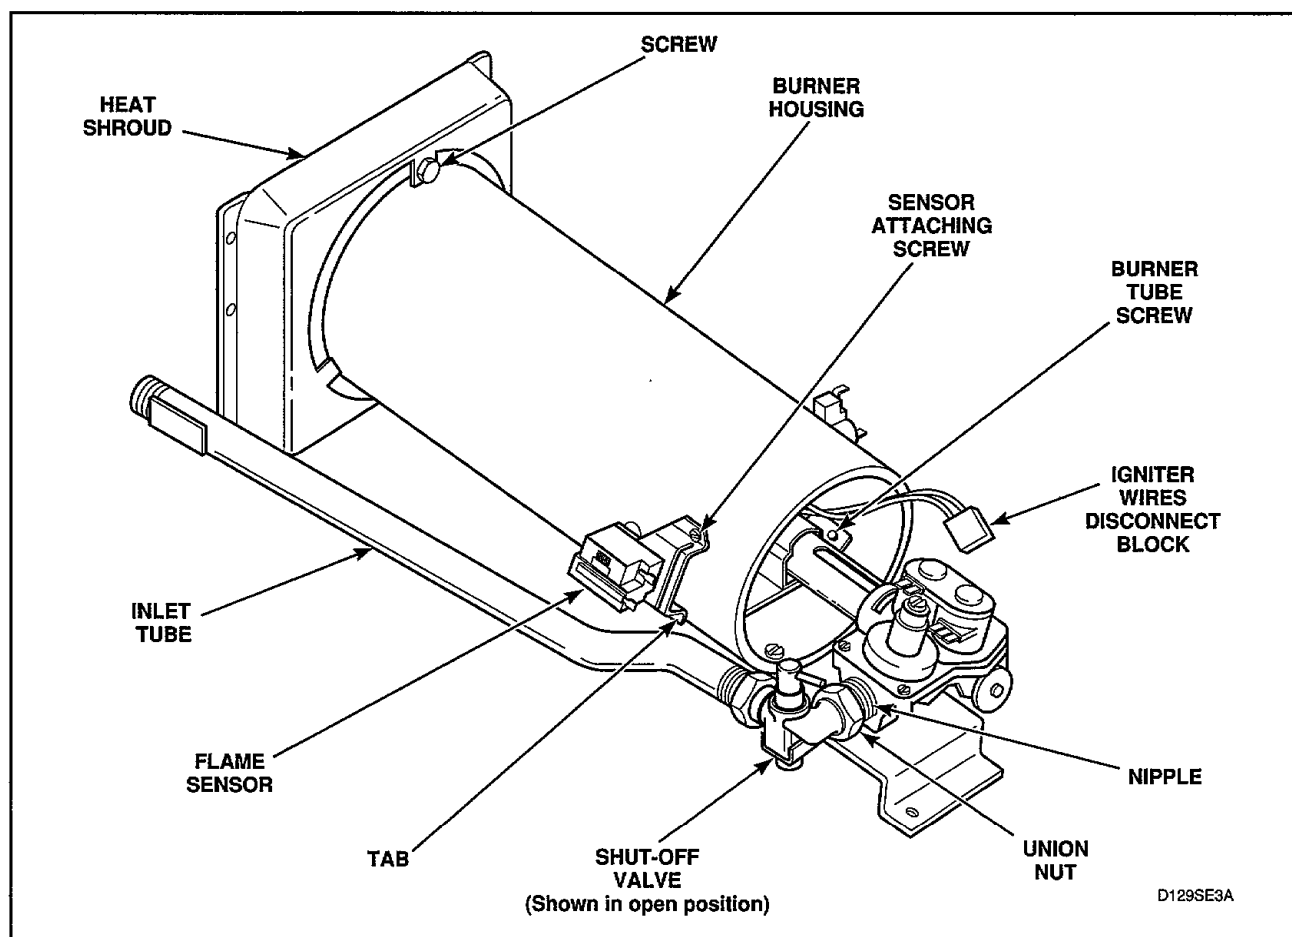
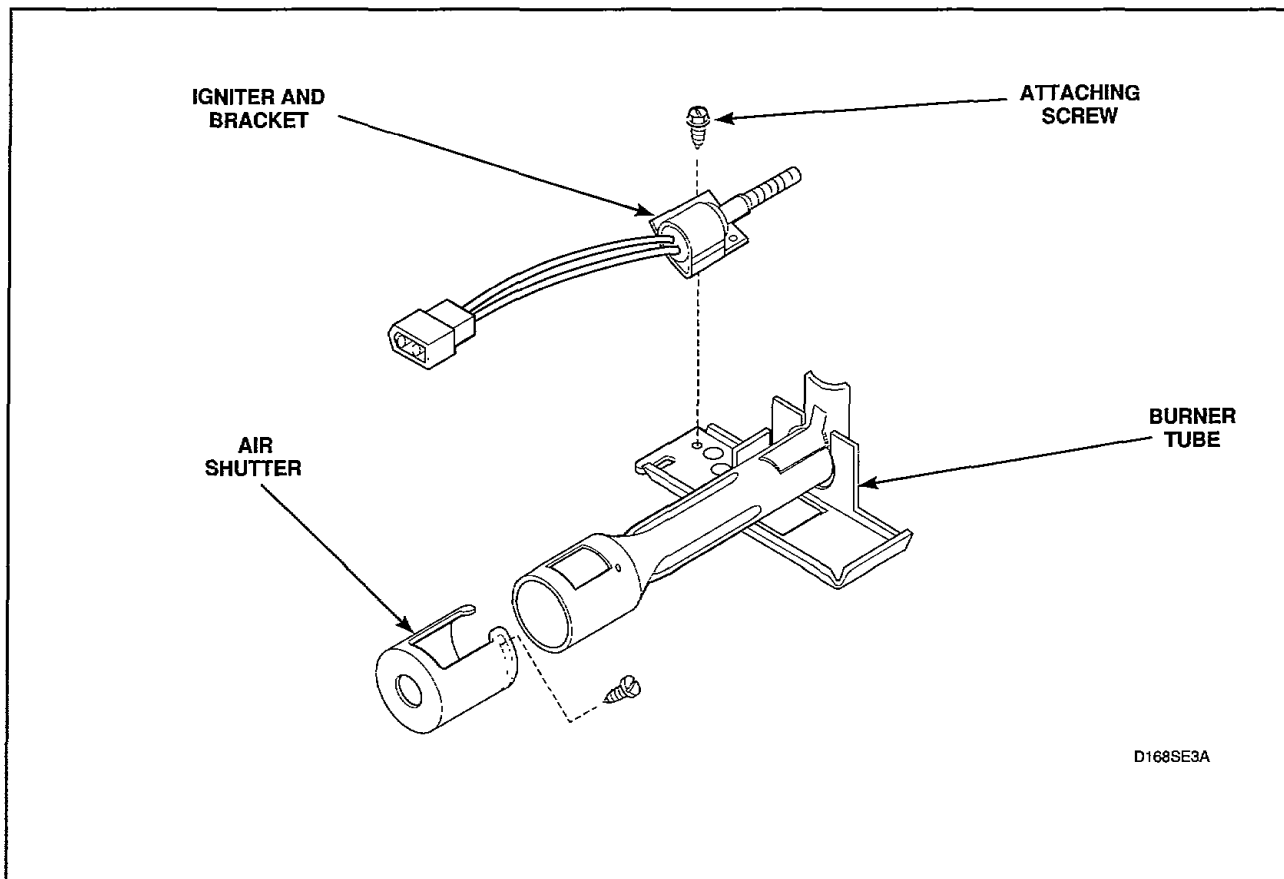

Figure 30
Figure 31
- (4) Disconnect gas shut-off valve from gas valve at the union nut, *Figure 30*.
- (5) Remove two screws holding valve and mounting bracket to base.
- (6) Slide assembly forward, then lift gas valve and mounting bracket from base, *Figure 30*.
- (1) Remove one screw from right side of burner housing holding burner tube in place, *Figure 30*.
- (2) Gently move burner tube toward rear of dryer to disengage tab from slot on left side of burner housing, *Figure 30*.
- (3) Carefully rotate burner tube and igniter counterclockwise so tab is at 8 o'clock position.
- (4) Move air shutter end of burner tube slightly to right and CAREFULLY remove burner tube and igniter assembly out through front of dryer.
- (5) Remove screw holding igniter and bracket to burner tube and remove igniter and bracket, *Figure 31*.
- (2) Gently lower the access panel to disengage guide lugs from bottom edge of front panel.
- (3) Remove wires from sensor terminals, *Figure 30*.
- (4) Remove screw holding sensor to burner housing, *Figure 30*.
- Gently move burner tube toward rear of dryer to disengage tab, *Figure 30*, from slot on left side of burner housing.
- Remove screw holding burner housing to heat shroud, *Figure 30*.